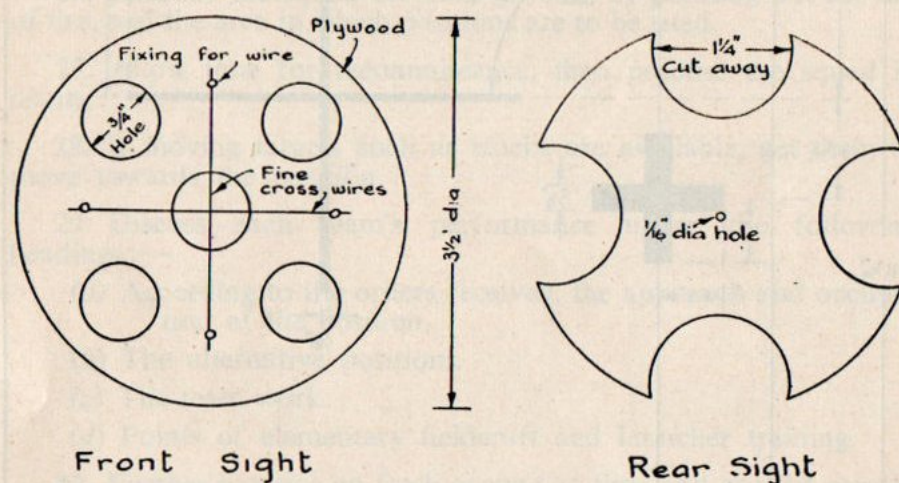

Fig 17.—The bore sights
4. *Bore sights*.—These are constructed as follows (see Fig 17):—